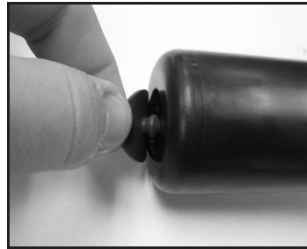

Figure 5
4. Inspect check valve in bottom of barrel. If worn or damaged, remove and replace by pressing into hole in bottom of barrel. **(See Figure 5)**